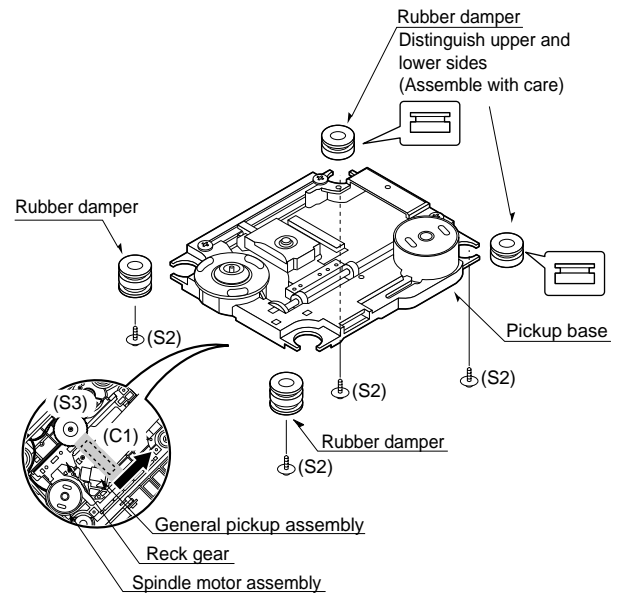

Fig.3
- (1) Insert and push a screwdriver in the emergency eject hole (A) at the right side, or put the screwdriver on the lever (B) of the emergency gear and pull the lever (B) in direction of arrow so that the Disc tray is ejected about 15 ~ 20 mm.
- (2) Pull the Disc tray until it is separated from the Main base completely.
3.2.3 Slide base assembly (See Fig.3)